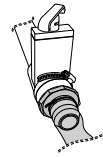

Figure 13.2i
4. Screw in the adapter with hose that was included in the equipment bay. Attach it to the quick drain (Figure 13.2i). Make sure to direct the hose to an area where the water will drain properly.